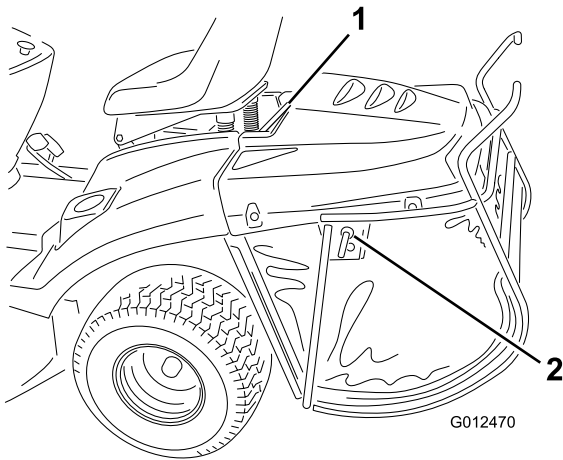

Figure 37
1. Lock the locking pin on the grass collector (Figure 37).
2. Lift up the collector using the top support bar (Figure 37).